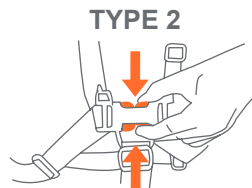

Fig. 17
- 17)** • To release, apply pressure to both sides of each male clip until the clip is released (Fig. 17).